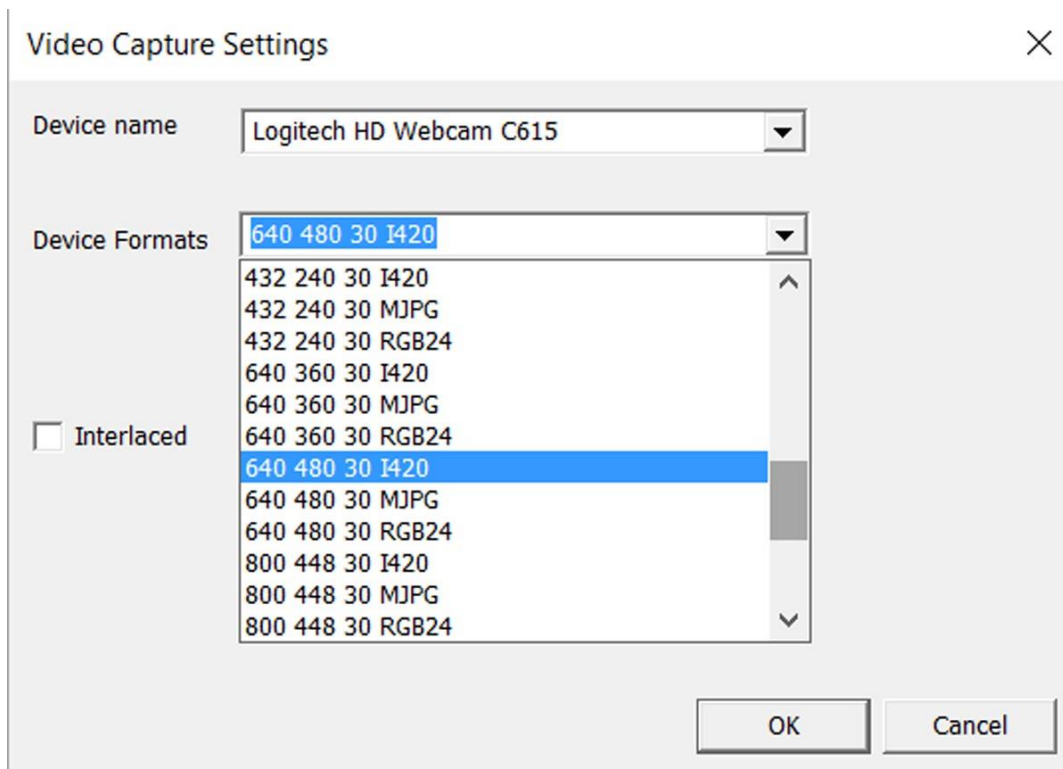

Figure 21 – The DEVICE FORMATS menu allows a number of possible values
- Now pull down the menu from the Video DEVICE FORMATS field as shown in **Figure 21**. Note that not all formats shown will be supported by a specific camera.